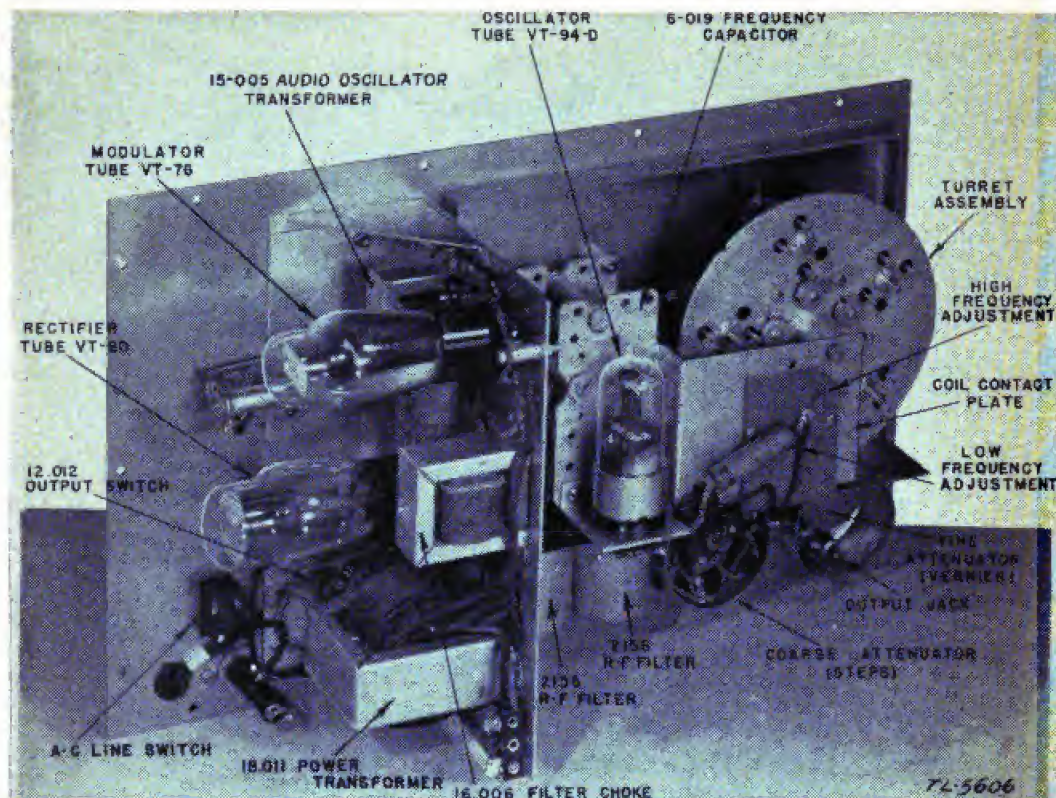

FIGURE 6.—Signal generator I-72-II—rear view of chassis with oscillator and attenuator covers removed.
10. Attenuator.—The attenuator is built in two sections in the round shielded compartments at the lower right of the chassis as shown in figure 6. The first section R-5, R-6, R-7, and R-8 consists of four steps, each giving increases of approximately 10 to 1 per step as the control is advanced from 1 to 4. The second section R-9 is a vernier to permit closer adjustment of the output levels between adjustment obtainable with the STEPS control. Maximum output is obtained when the STEPS control is set at 4 and the VERNIER control is set at the extreme right or clockwise position. When using the 400-cycle oscillator output through the attenuator, a maximum of approximately 1.2 volts is available. With the step attenuator in position 1, audio output will be zero.
14. Tube replacement.—Either tube VT-80 or tube VT-76 may be replaced without affecting the calibration of the instrument. Ordinarily, this is also true of tube VT-94-D although the frequency calibration should be checked after changing this tube before further use is attempted. If the calibration of the signal generator is thrown off by the replacement of tube VT-94-D, normal operation of the signal generator for a period of 24 to 48 hours will age the tube and usually restore the instrument to calibration. Calibration change will be most noticeable at the high-frequency end of band 5. Small changes in calibration can be corrected by means of the trimmer capacitor adjacent to each coil and accessible through the upper adjustment port in the oscillator shield can (see fig. 6). The chassis may be withdrawn by removing the fourteen binding-head screws which are at the edge of the front panel. The chassis is then removed by tilting the case forward.
as it is possible that the standard may be at fault. Only qualified personnel should attempt to recalibrate this instrument. Attention is directed to the adjustable iron core in each coil for the control of its inductance and to the five trimmers on the turntable assembly for control of the capacities of the individual bands. Adjustment should be made preferably through the two access ports provided in the rear of the oscillator shield can, with the shield in place (see fig. 6). Although the two adjustments for each band are not completely independent, it may be said that the iron slug has the greater control over the low-frequency end of each band and the trimmer over the high-frequency end. After the iron slug has been adjusted, the jam nut should be reseated to prevent shifting of the adjustment.